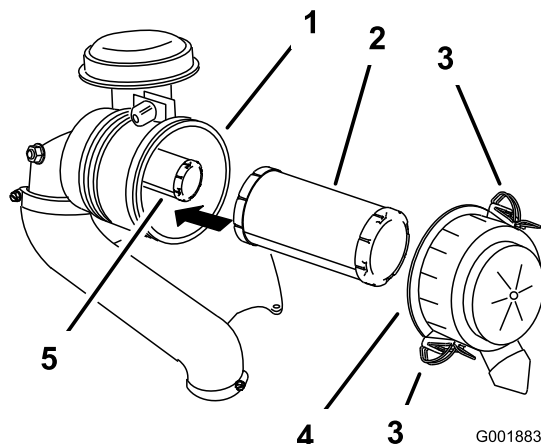

Figure 36
3. Release the latches on the air cleaner and pull the air cleaner cover off the air cleaner body (Figure 36).
5. Gently slide the primary filter out of the air cleaner body (Figure 36).
2. If the safety filter is being replaced, carefully slide it into the filter body (Figure 36).
3. Carefully slide the primary filter over the safety filter (Figure 36).
4. Install the air cleaner cover with the side indicated as up facing upward and secure the latches (Figure 36).